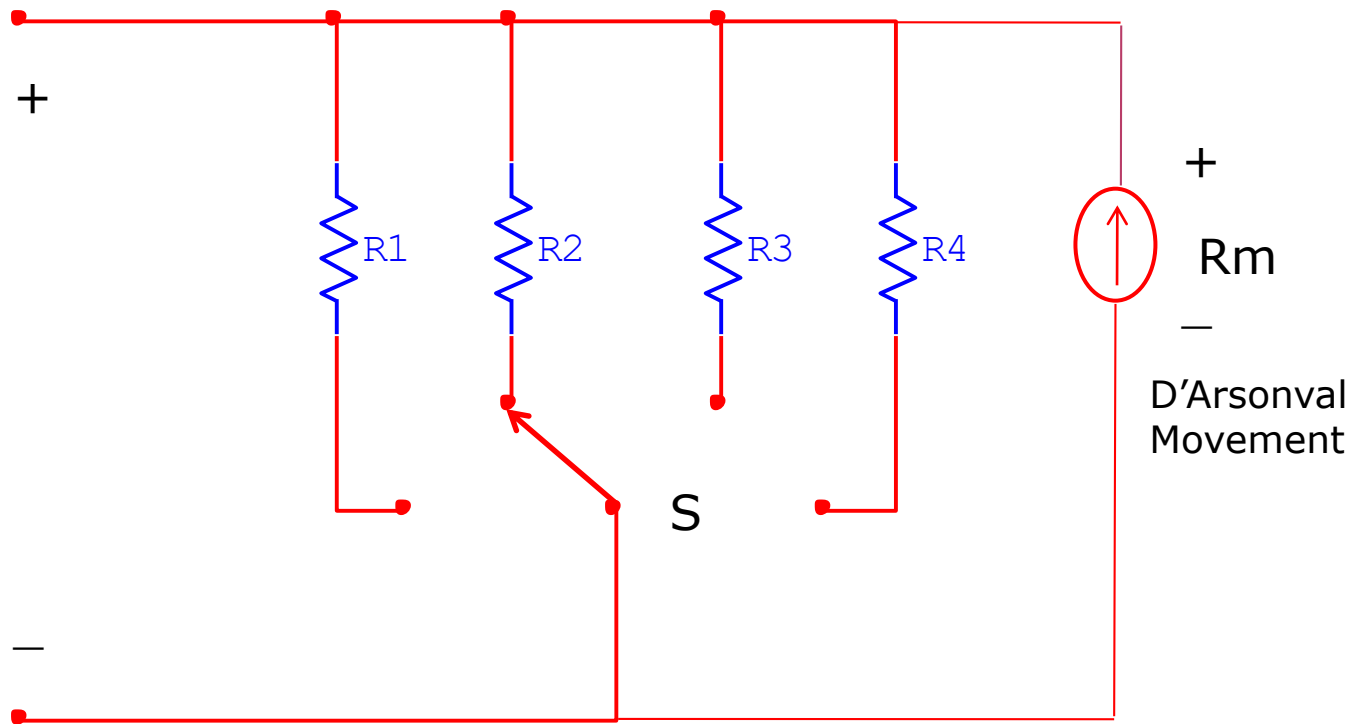

Figure 2.3: Multirange Ammeter
□ A basic D'Arsonval movement can be converted into a DC voltmeter by adding a series resistor (multiplier) as shown in Figure 2.3.